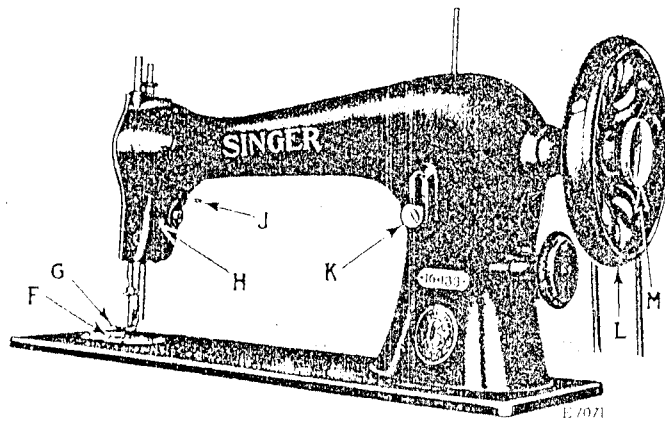

FIG. 6. FRONT VIEW OF THE MACHINE
Raise the presser foot (G, Fig. 6) by means of the presser bar lifter (J, Fig. 6) to prevent injury to the foot (G) and feed (F, Fig. 6).
When Machines of Class 16 are fitted with the stop motion clamp screw (M, Fig. 6), the balance wheel (L, Fig. 6) can be released when required, thus enabling the operator to become proficient in the use of the treadle, and permitting the winding of bobbins without running the stitching mechanism. It also allows the operator to wind bobbins without removing partially sewn work and without unthreading the machine.
To release the balance wheel (L, Fig. 6, page 6) turn the stop motion screw (M, Fig. 6) over toward you. It will be necessary to hold the balance wheel while loosening the stop motion screw.